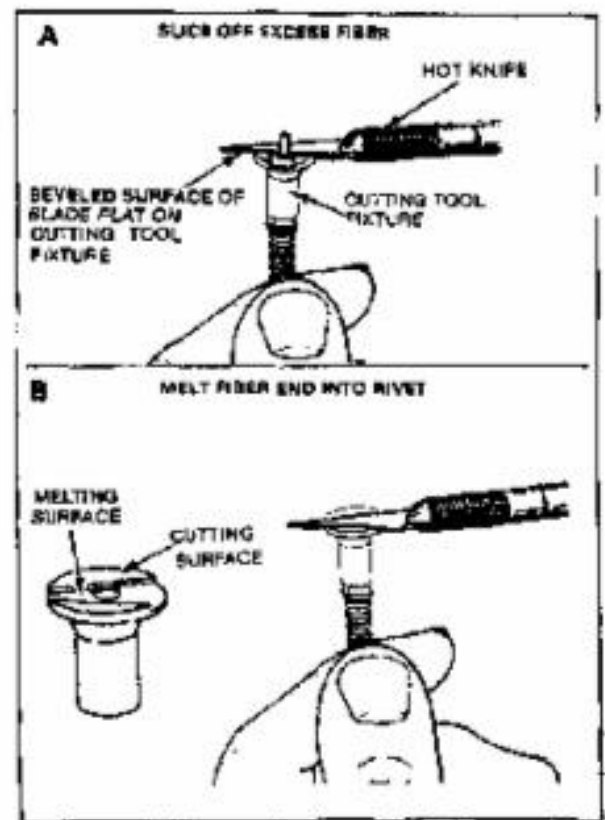

Figure 2
4. Slide the plug into the cutting tool fixture, as shown in Figure 2.